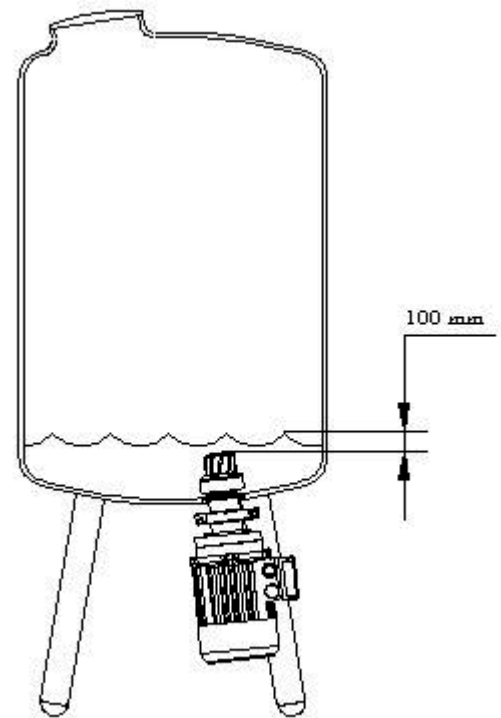

Fig.6.3.1.1
Always fill up enough liquid into the vessel and run the mixer before solid material or other substance is added. See fig 6.3.1.1.
2. During CIP, the Rotor must be submerged min 100 mm se Fig.6.3.1.1.